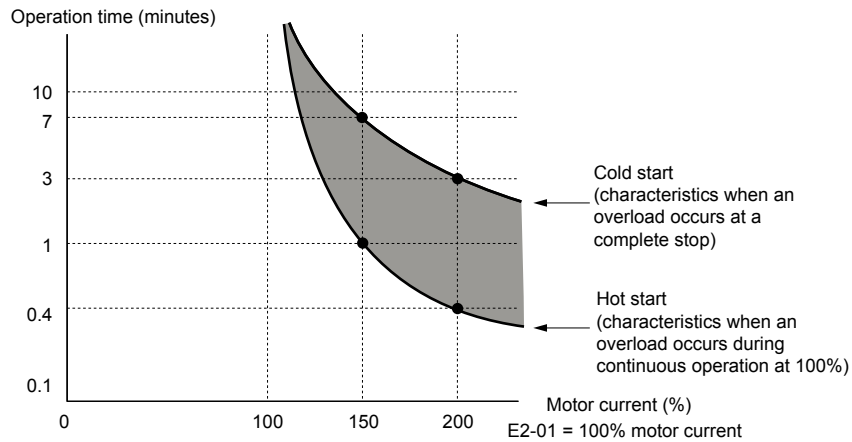

Figure 5.88 Protection Operation Time for General Purpose Motors at the Rated Output Frequency
**Figure 5.88** illustrates an example of the electrothermal protection operation time using a general-purpose motor operating at the value of E1-06, Motor Base Speed, with L1-02 set to one minute.